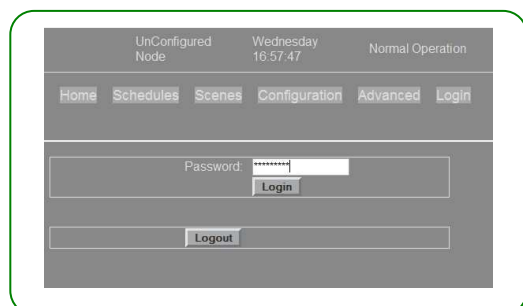

Figure 2: Login Page
2. On the login page enter the password which will give you installer rights and allow you to change configuration settings. By default this password is **installer** (see figure 2).